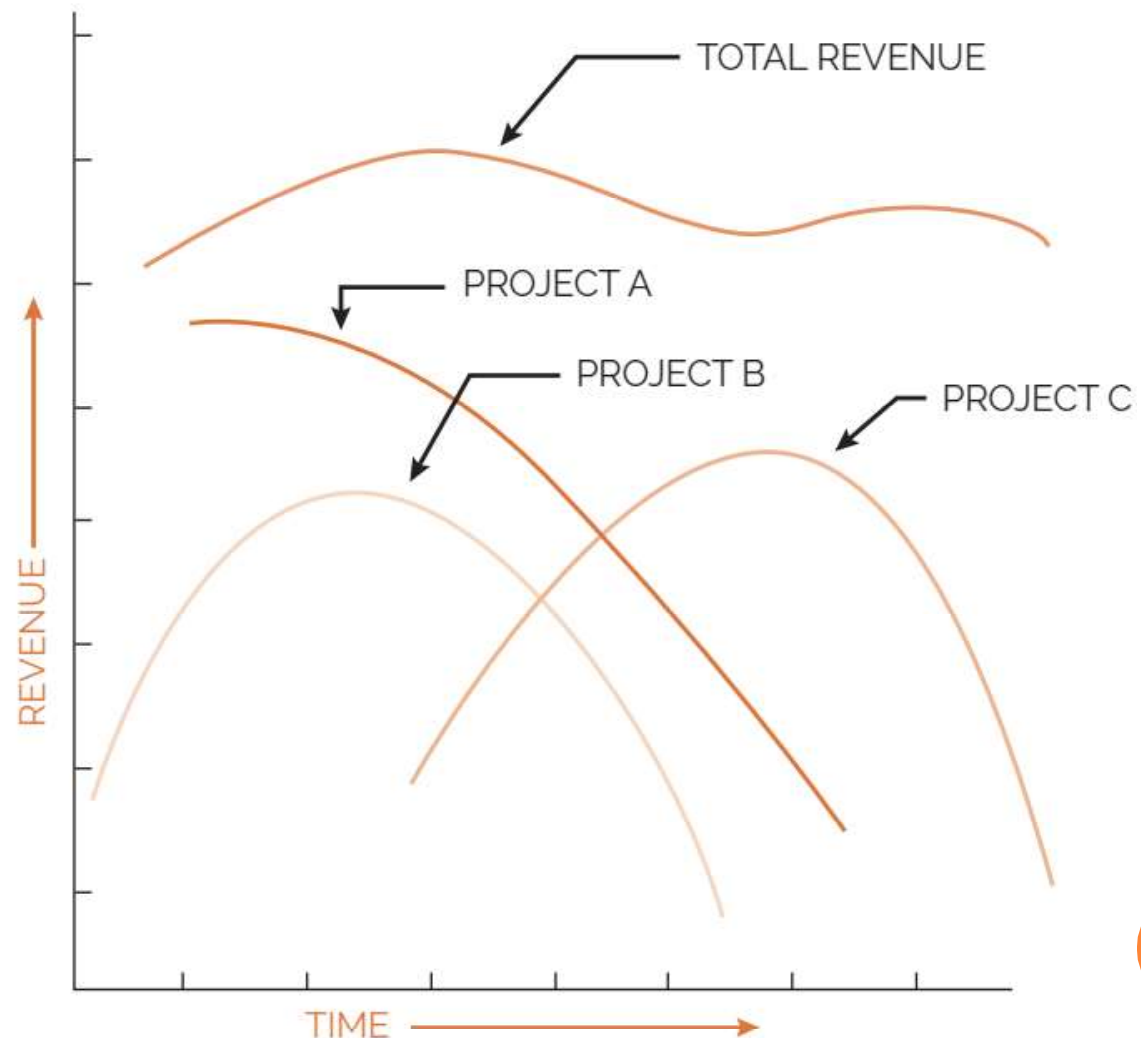

Fig 5.4: A Stream of Projects
- e. Closure Phase:* The final phase is closure and includes the reallocation of resources. The question to be answered is, "Where the resources should be reassigned?" Consider a company that sells products on the open consumer market. As one product begins the deterioration and death phases of its life cycle, then new products or projects must be established. Such a company would, therefore, require a continuous stream of projects as a necessity for survival, as shown in Figure 5.4 next slide. As projects A and B begin their decline, new efforts (project C) must be developed for resource reallocation.